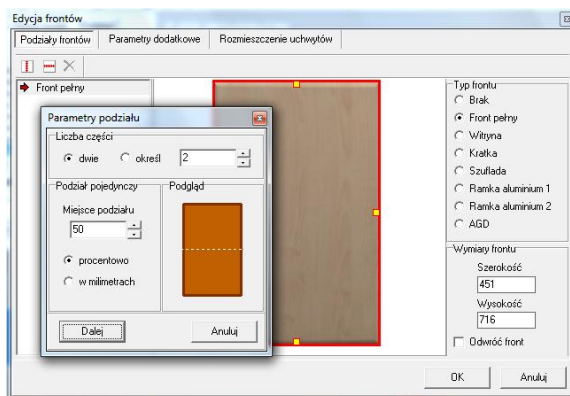

Fig. 173 – front division parameters
- this is why if you want to divide the initial front into many parts of different size, you have to make these divisions one after another (Fig. 173 and 174);